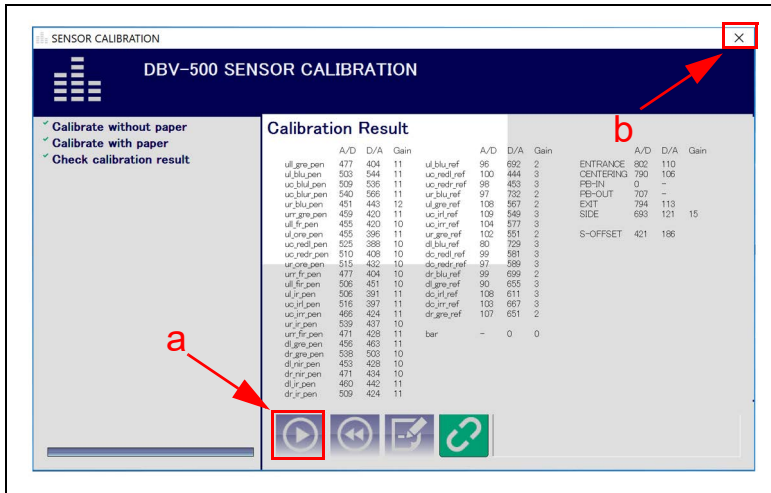

Figure 10 DBV-500 S Sensor Calibration Result
- When the SENSOR CALIBRATION Result screen appears (Figure 10), click the Start button (Figure 10 a) to save the Calibration Settings to EEPROM.
12. When the “Write EEPROM Succeeded” prompt appears, click the “OK” screen button to close the screen. Then click the Close box × (Figure 10 b) to close the Sensor Calibration Screen and complete the Calibration process.